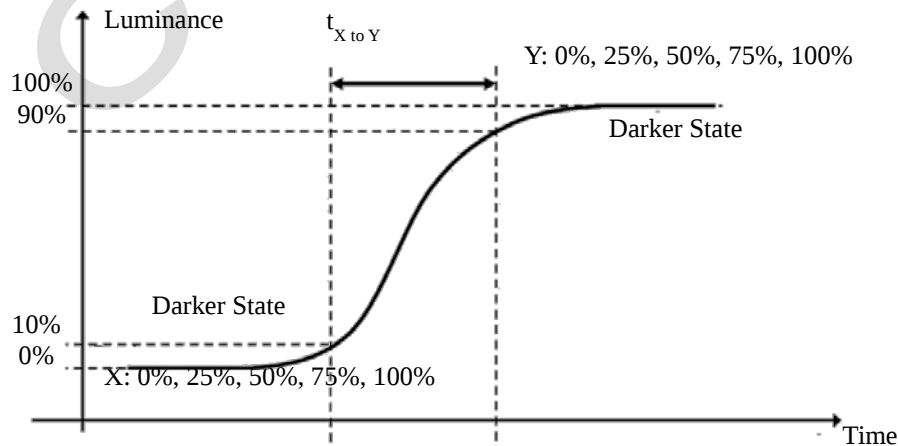

Fig. 6.4 The definition of $t_{X \text{ to } Y}$
- (3) Response time T_L is defined as the average transition time in the response time matrix. The table below is the response time matrix in which each element $t_{X \text{ to } Y}$ is the transition time from luminance ratio X to Y , X and Y are two different luminance ratios among 0%, 25%, 50%, 75%, and 100% luminance. The transition time $t_{X \text{ to } Y}$ is defined as the time taken from 10% to 90% of the luminance difference between X and Y ($X < Y$) as illustrated in Fig6.4. When $X > Y$, the definition of $t_{X \text{ to } Y}$ is the time taken from 90% to 10% of the luminance difference between X and Y . The response time is optimized on refresh rate $F_R = 60\text{Hz}$.